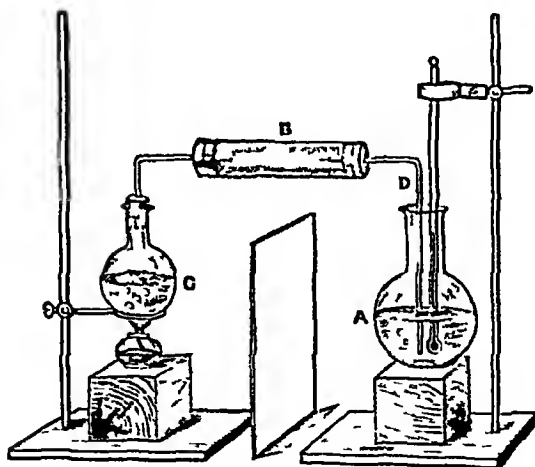

FIG 21
(A is a 16-oz flask (fig 21), B, a wide tube to prevent condensed water passing into A, C, an 8-oz flask three parts full of water Weigh A empty and when three parts full of water, the difference is the weight of water Protect A from the heat of the burner by a sheet of tin Boil the water in C When the steam is issuing from the end of B, note the temperature of A, and then dip D into A, the steam condensing heats the water in A, test with the thermometer, in about four or five minutes remove D and note the final temperature, weigh A and find the weight of steam condensed
**Aqueous Vapour**—Water in the gaseous state is invisible, and is called water vapour or aqueous vapour, the vapour as it passes along B (fig 21) cannot be seen, nor is it visible above the boiling water in a flask. When aqueous vapour is cooled, it condenses into very small particles of liquid water, and is frequently but inaccurately called steam